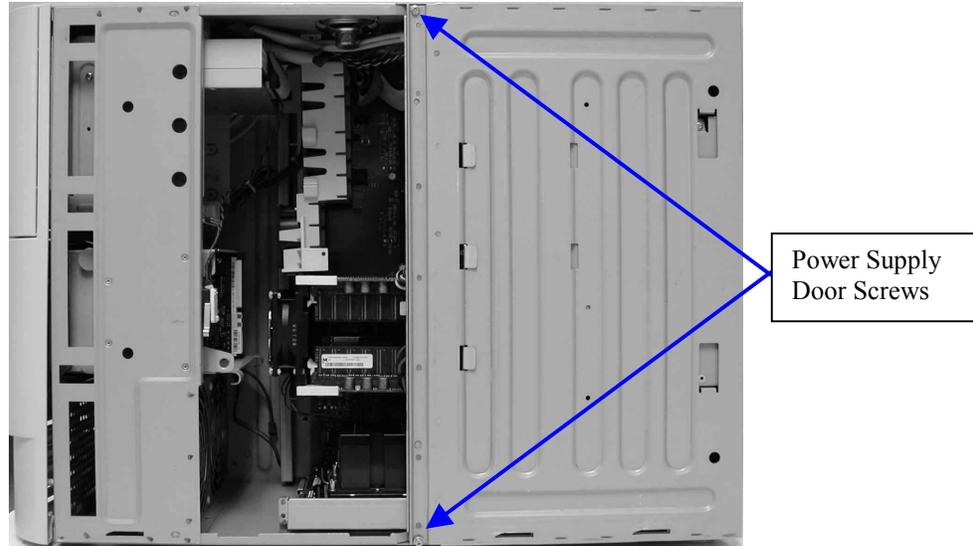

Figure 3. Internal System View after Side Door Removal
5. Once the side cover has been removed the system should appear (as shown in Figure 3).